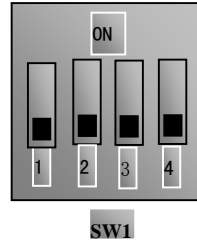

Figure 4-4
(5) There is a red four-digit coding switch SW1 near the control terminal block of three-phase inverter, as shown in Figure 4-4. The function of coding switch is to select the input range (0~5V/0~10V) of voltage type analog input terminal AI1. In actual application, select the analog input channel through F203. Turn switches 1 and 3 to OFF as illustrated in the figure, and select 0~5V voltage speed control.